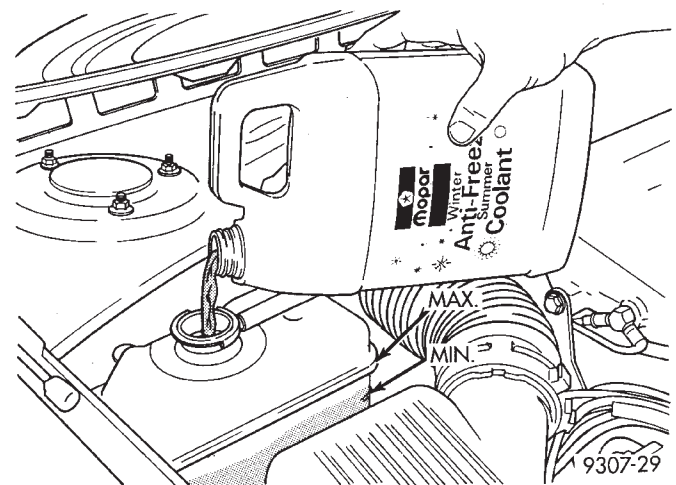
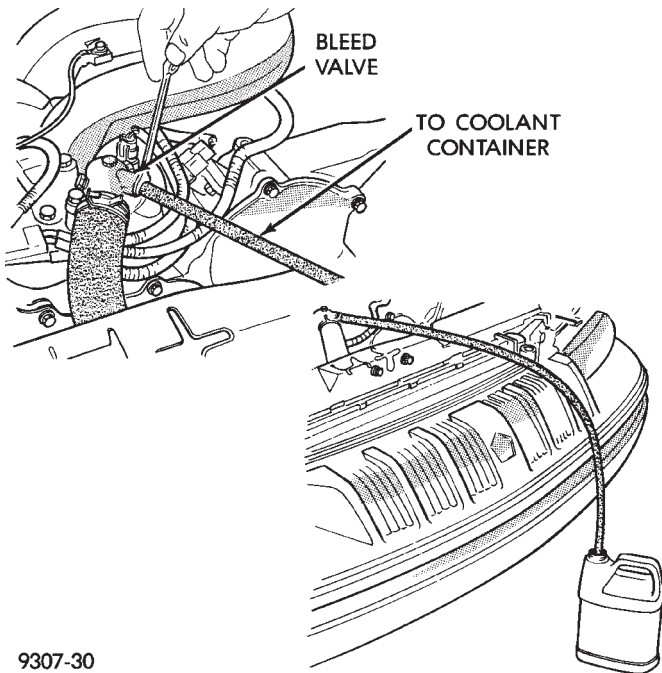

Fig. 2 Filling Cooling System
Fig. 3 Bleeding Cooling System While Filling With Coolant
(3) Attach one end of a 6.35 mm (.250 in.) ID clear hose that is approximately 1219 mm (48 in.) long, to the bleed valve in the thermostat (Fig. 3). Route the hose away from the accessory drive belt, drive pulleys and electric cooling fan. Place the other end of hose into a clean container. The hose will prevent coolant from contacting the accessory drive belt when bleeding the system during the refilling operation.
(4) Open bleed valve.
(5) Slowly fill coolant pressure bottle (Fig. 2) until a steady stream of coolant flows from hose attached to the bleed valve.
(6) Gently squeeze upper radiator hose until all air is removed from system.
(7) Close bleed valve and continue filling to the top of the coolant deaeration pressure bottle (Fig. 3).
(8) Install cap on coolant pressure bottle.
(9) Remove hose from bleed valve.